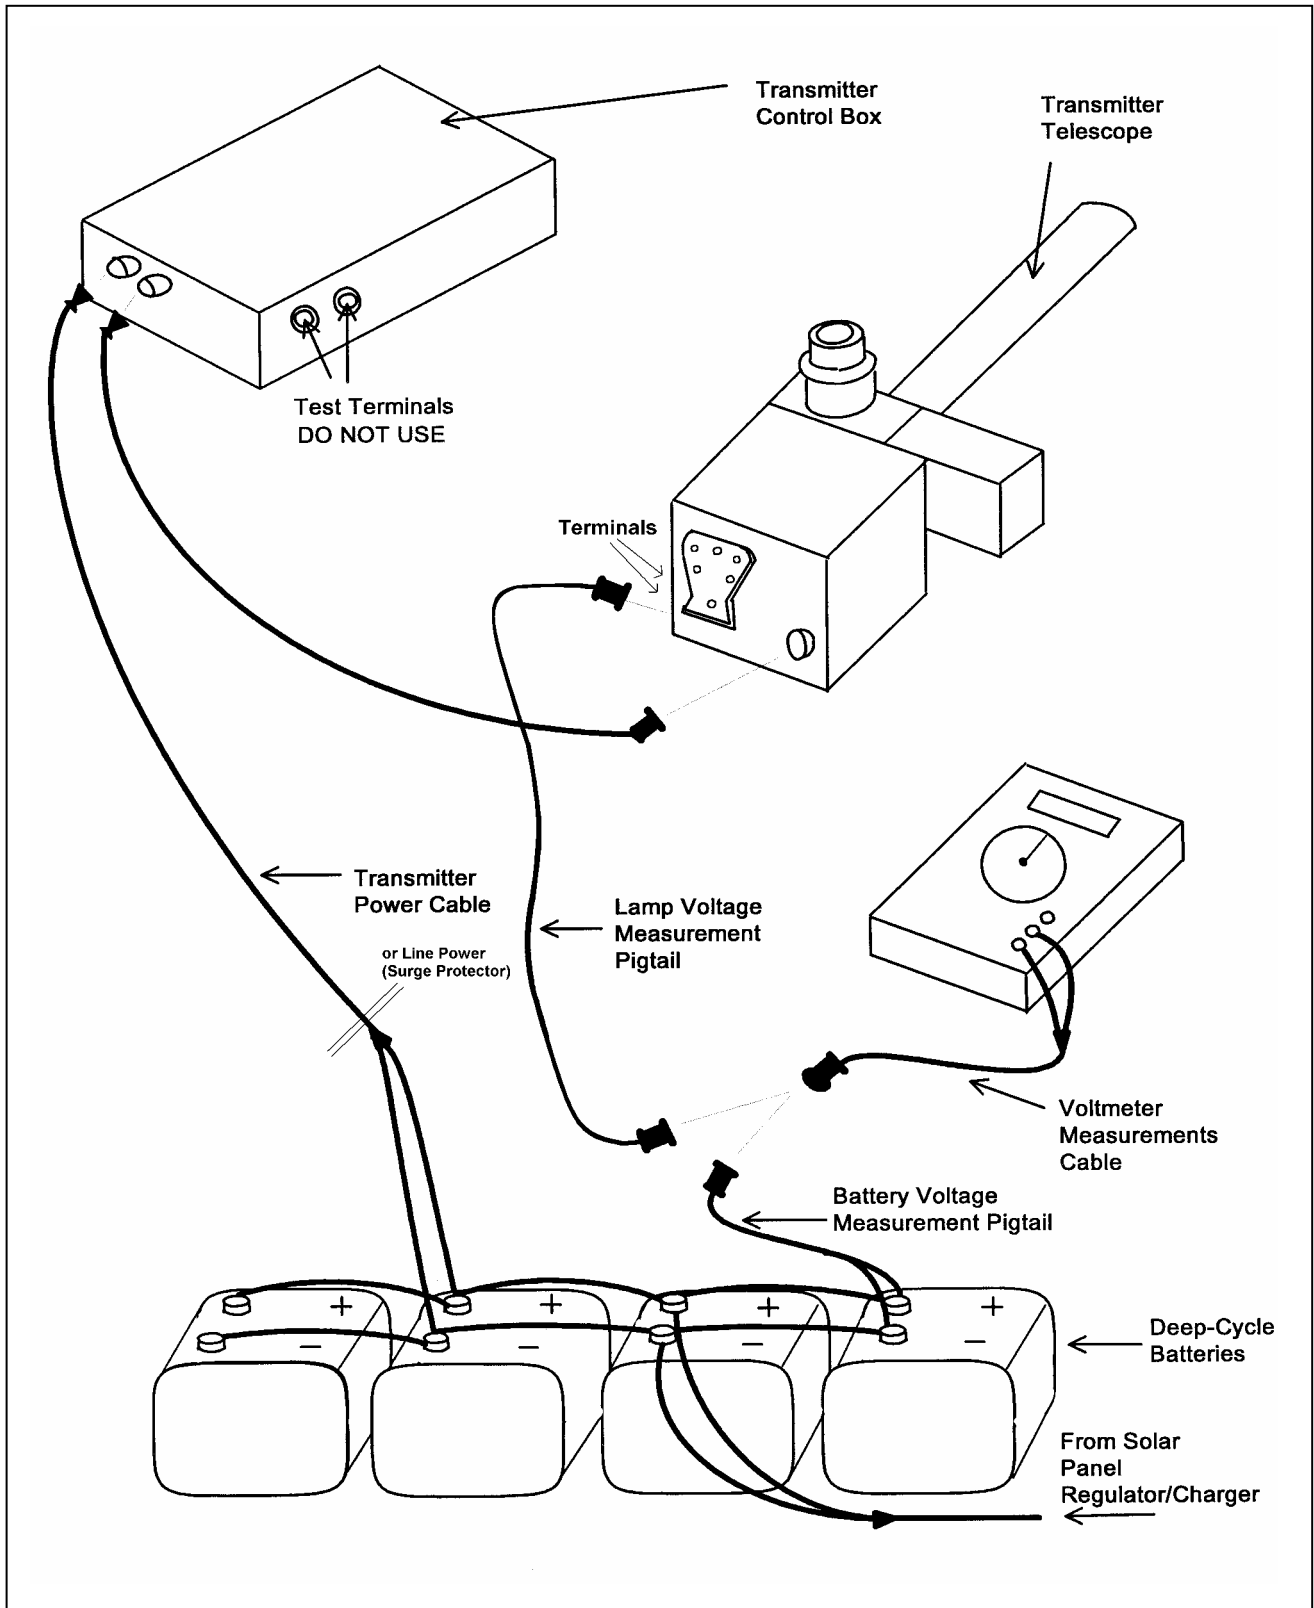

Figure 4-8. Transmitter Components Connection Diagram.
- Connect the control cable to the instrument and the control box making sure to set the connectors properly. A small detent can be felt when the connectors are fully seated. Verify that the control cable connector attached to the instrument (transmitter telescope) includes the “measurement pigtail” as shown in Figure 4-8. Connect the red and black banana jacks to the same color connectors on the side of the transmitter lamp housing.